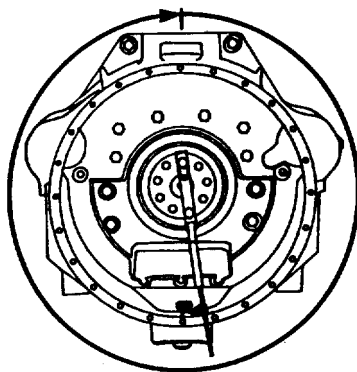

FIGURE 3-32. Flywheel Housing Alignment Measurement.
- (2) Draw chalk marks on the flywheel housing at 12, 3, 6, and 9 o'clock positions. Position indicator at 12 o'clock position and set dial to "0" (FIG. 3-32).